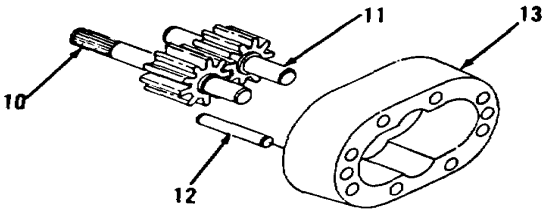

Figure 10-16.
- 7. Remove drive gear (10), idler gear (11) and two dowels (12) from body (13, Figure 10-16).